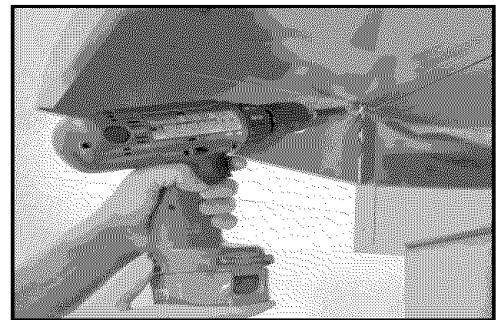

Fig. 14
2. Lock the shelf in place by inserting (2) self tapping screws into shelf. (See Fig. 14)